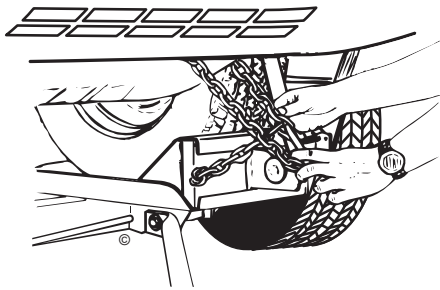

Figure 12
16. Connect the two (2) vehicle security chains, found next to the ratchets, to the vehicle-in-tow lower control arm, frame, or other structural member. (Figure 12) Keep the security chains away from brake and fuel lines and other items that may be damaged by the chain. **DO NOT** place the chain hook on the vehicle frame member or other structural member. Loop the chain around the member and place the "S"-hook through the hole in one of the chain links. Leave about two inches of slack in the security chain and be sure the "S"-hook is secured with a rubber retainer. **DO NOT** tow without vehicle-in-tow properly secured.